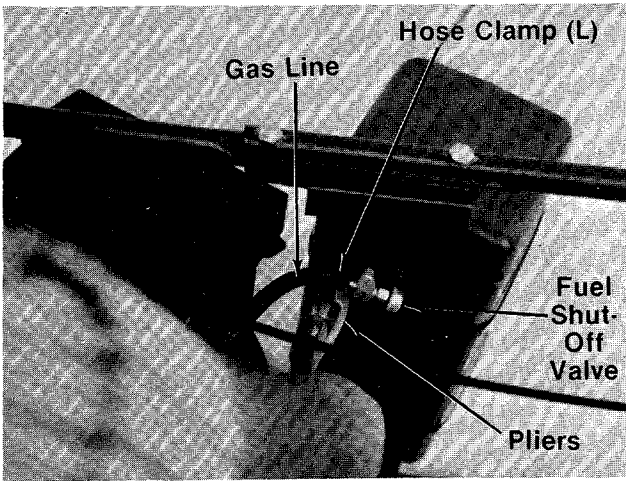

FIGURE 11.
10. With a pair of pliers slip the hose clamp (L) over the end of gas line (already on engine).
- ← Place end of gas line over fuel shut-off valve (on bottom of tank) and secure with hose clamp (L). See figure 11.